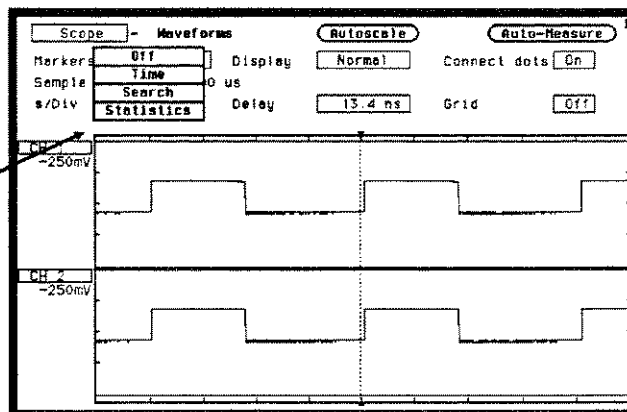

Figure 25-10. Markers Field Pop-up
In the Waveforms menu, the Markers field is located on the left side of the top row of fields, and can only be accessed from the Oscilloscope's Waveforms menu. When the Markers field is selected, a pop-up appears as shown in figure 25-10.
**Statistics** The last field in the Markers pop-up shown in figure 25-10 is **Statistics**. When Statistics is selected from the Markers field, a new middle row of fields appear. See figure 25-19.